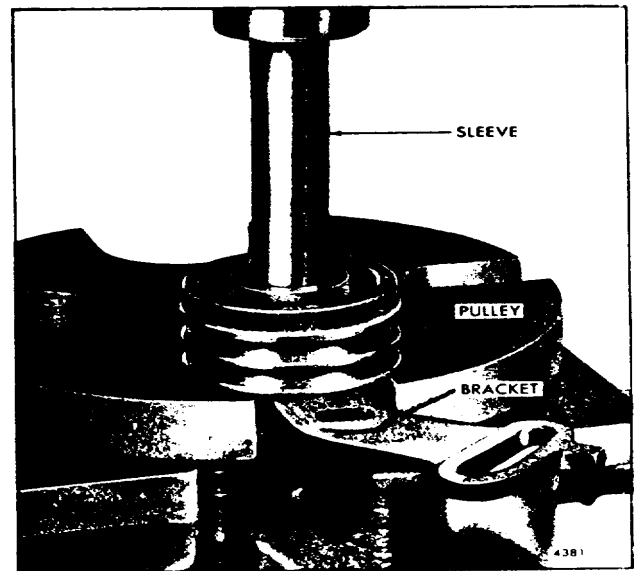

Fig. 2. - Removing Shaft and Bearing Assembly and Bracket from Idler Pulley
1. Support the pulley, then press the shaft and bearing assembly and bracket from the pulley by applying pressure to the outer race of the bearing (Fig. 2).